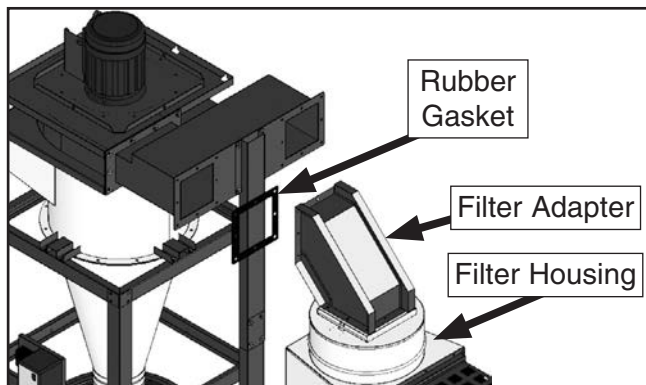

Figure 8. Filter components assembled.
6. Attach square rubber gasket to top of HEPA filter housing (see **Figure 8**), then secure filter adapter to housing using (16) $\frac{5}{16}$ " x 1" hex bolts and (8) $\frac{5}{16}$ " flat washers.